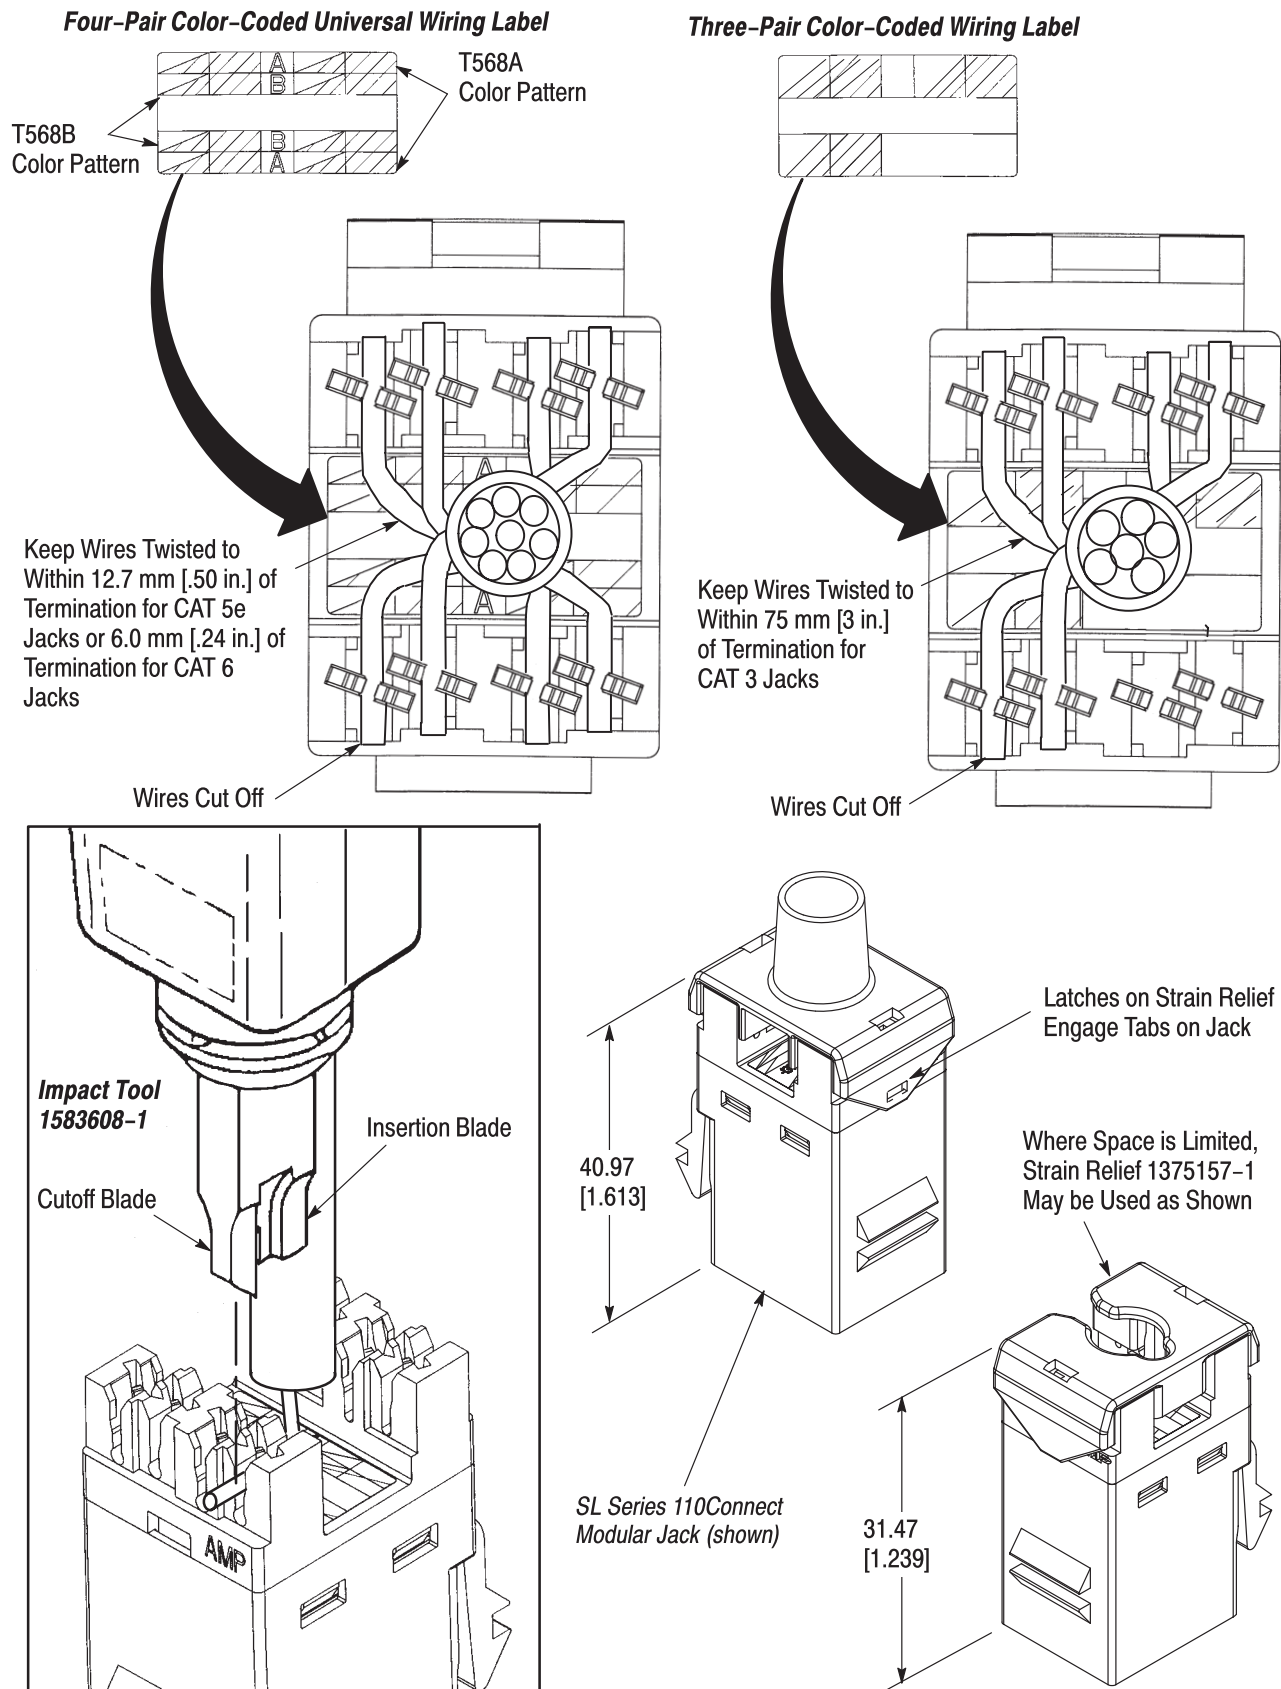

Figure 3
- Align and lace a color-coded wire pair with the appropriate slots as indicated by the color coding on the wiring label (use minimum slack while maintaining twist, as indicated in Figure 3).
- Slide bend-limiting strain relief (if used) onto jack. Latches on strain relief will engage tabs on rear of jack as indicated in Figure 3.
- Deleted old and superceded part numbers in NOTE in Paragraph 3.2 and Figure 3